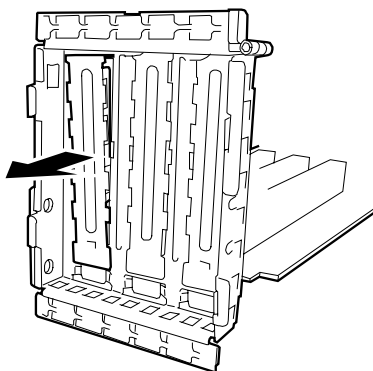

Figure 4-26. Removing the Expansion Slot Cover
7. Push out the expansion slot cover. Keep the removed expansion slot cover for future use. See Figure 4-26.